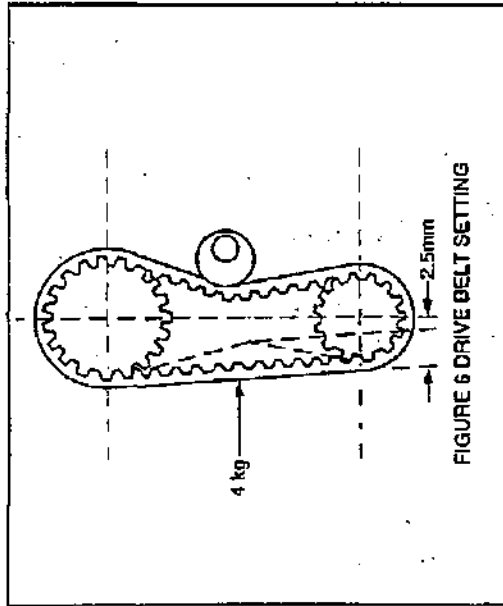

FIGURE 6 DRIVE BELT SETTING
**TENSIONING THE DRIVE BELT (See Figure 6)**